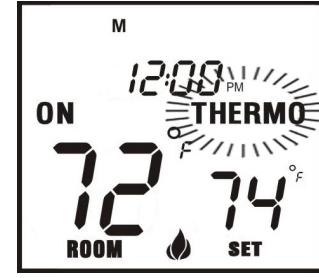

Fig. 10. Thermo Mode
Step 2: Press the MODE button a second time to put the system in **THERMO** mode (See Fig. 10).